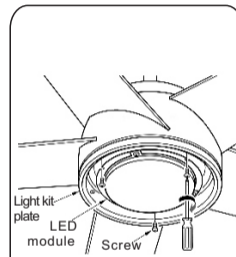

Fig.26
Step 5: Tighten the LED assembly to light kit plate with 3 screws.(Fig. 26)